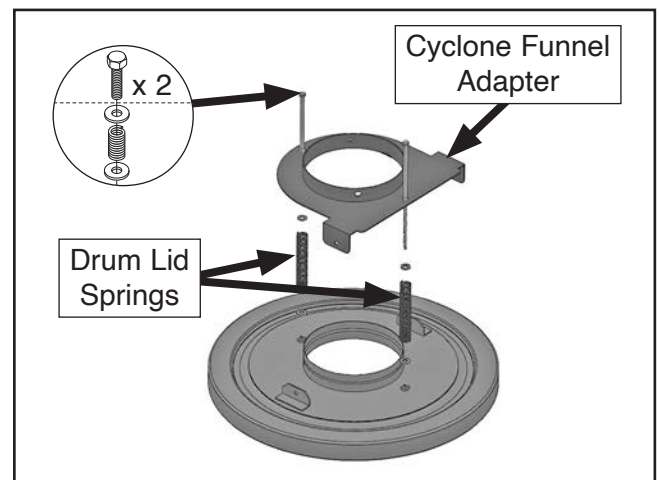

Figure 31. Installing cyclone funnel adapter.
30. Attach cyclone funnel adapter to drum lid using (2) $\frac{3}{8}$ "-16 x 11" hex bolts, (2) drum lid springs, and (4) $\frac{3}{8}$ " flat washers, as shown in **Figure 31**.